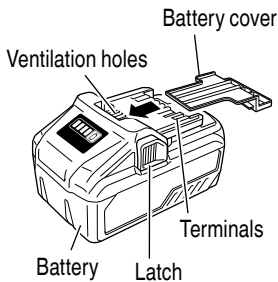

Fig. 3
- Either install the battery in the power tool or store by securely pressing into the battery cover until the ventilation holes are concealed to prevent short-circuits (See Fig. 3).